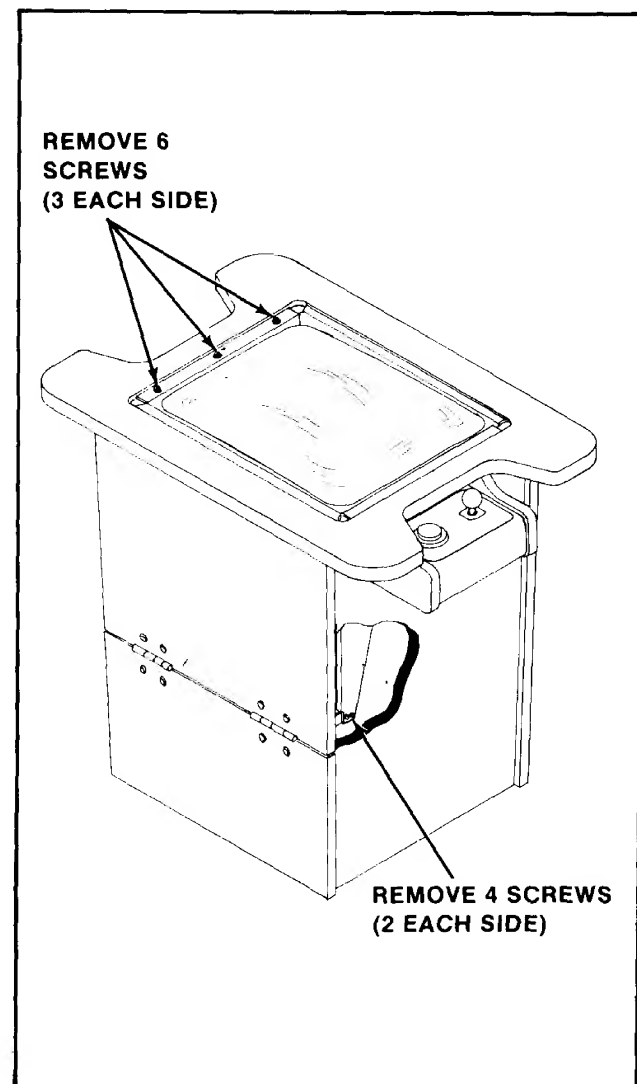

Figure 4-11 Removing Monitor — Cocktail
3. COCKTAIL TABLE MODEL: See Figure 4-11.
- ☐ Remove the screws holding the T.V. monitor chassis to the "L" brackets by the door hinge(s). See Figure 4-11.
- ☐ Remove the screws which secure the T.V. monitor mounting brackets to the edges of the slot cut in the table top. See Figure 4-11.